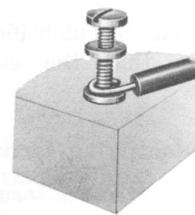

Fig. 10 — Terminating on Screw Terminal
5.00 TERMINATING WIRE AND CABLE CONDUCTORS, FIG. 10, 11, 12, 13, AND 14